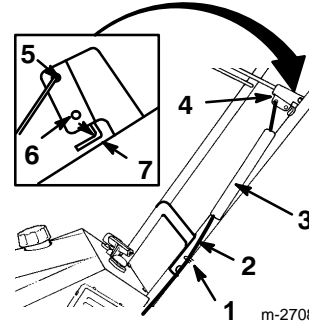

Figure 10
IMPORTANT: You must route the control cable through the cable guide before you tighten the handle lock (Fig. 10).
- Slide the spring cover over the spring and the cable adjuster and push the spring end through the hole at the end of the spring cover (Fig. 10).
- Hook the spring into the top hole of the control bar bracket (Fig. 10).
- Ensure that a 1/16 to 1/8 inch (0.16 to 0.32 cm) gap exists between the control bar and the handle (Refer to the inset in Fig. 10). To adjust this gap, refer to *Adjusting the Control Bar* on page 16.
3. Ensure that a 1/16 to 1/8 in. (0.16 to 0.32 cm) gap exists between the control bar and the handle (Refer to the inset in Fig. 10). To adjust this gap, refer to *Adjusting the Control Bar* on page 16.